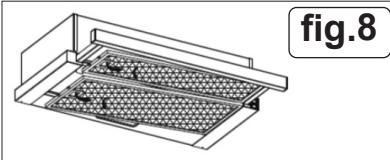

fig.8
- **GREASE MESH FILTERS (fig.8)**
• **INSTALLING GREASE MESH FILTERS (fig.8).**